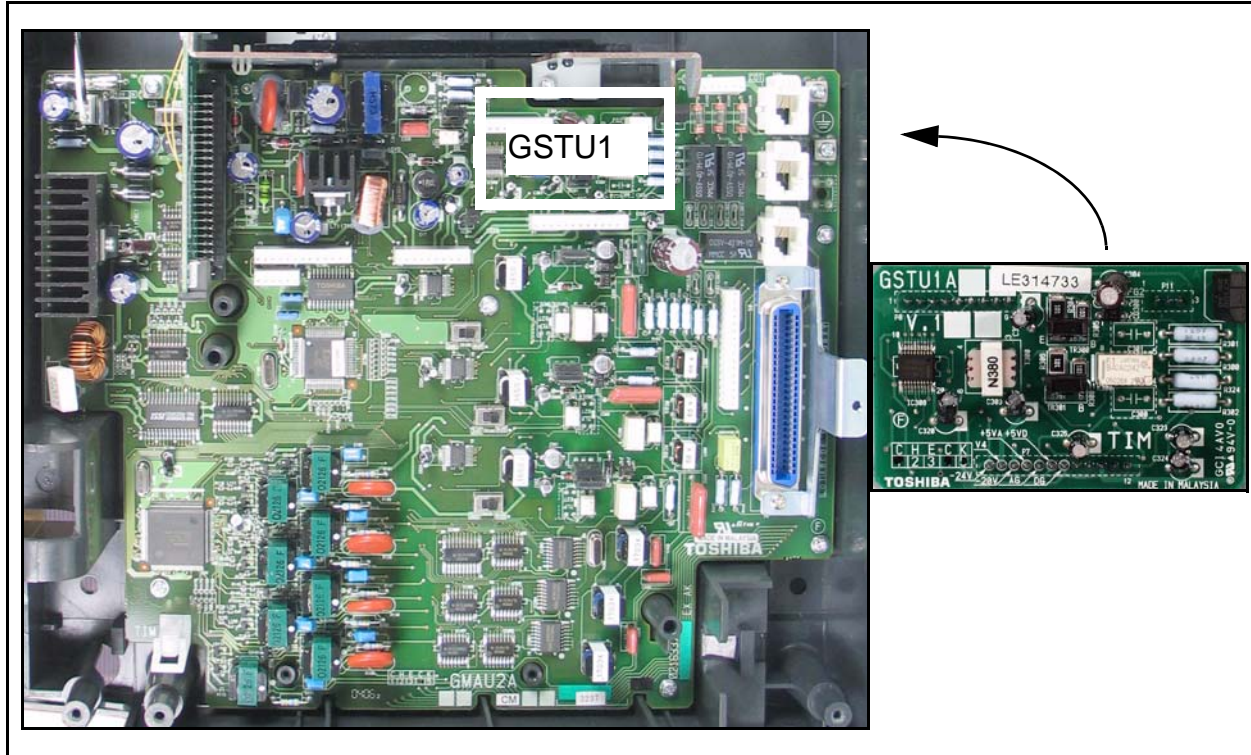

Figure 1-25 GSTU1 PCB
- To install the GSTU1, align the GSTU1 pins over the GMAU2/3/4 motherboard and press down firmly. Refer to Figure 1-25.